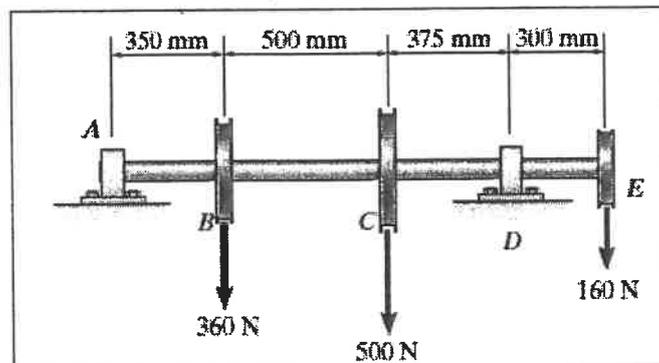

Figure 8
- (b) Figure 8 shows bearings at A and D exert only vertical reaction on the shaft. Loading is applied to the pulleys at B (360 N) and C (500 N) and E (160 N). Sketch;